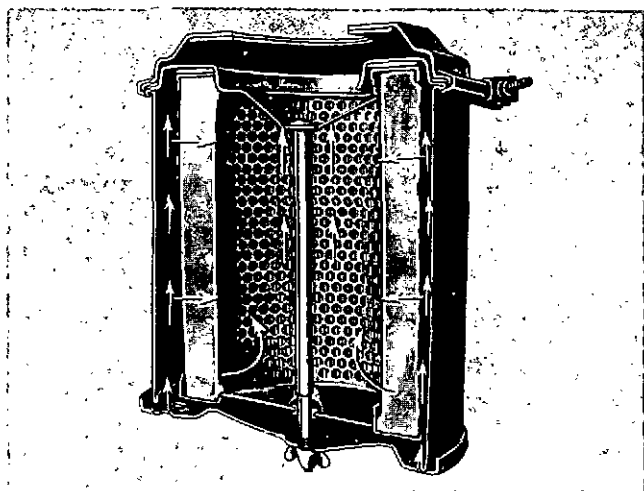

Fig. 5-11, N11003. Air cleaner - dry type
The paper element in a dry-type air cleaner, Fig. 5-11, may be cleaned several times by using an air jet to blow off dirt or by washing with non-sudsing household detergent and warm water, preferably 120/140 deg. F [48.9/60.0 deg. C], then drying with compressed air, approximately 40 psi [2.8124 kg/sq cm]. Do not hold air jet too close to paper element or damage to element may result.
1. Loosen wing nut (1, Fig. 5-11) securing bottom cover (2) to cleaner housing (3). Remove cover.
2. Pull element (6) down from center bolt (4).